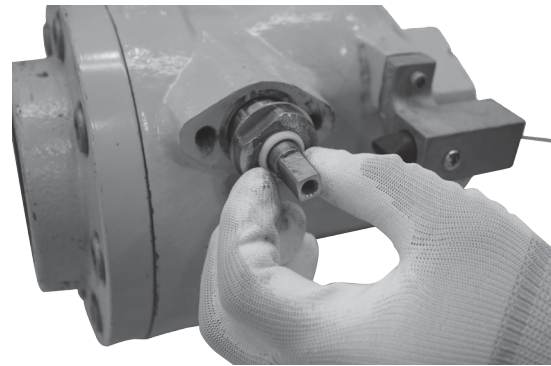

Figure 16. Install packing ring (step 6)
6. Install one TFE packing ring with the female side in, Figure 16, using the same procedure as in step 5. Again apply a liberal layer of Magnalube[®]-G grease.